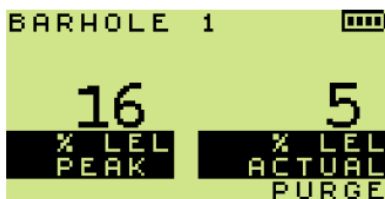

Figure 27: Barhole Readings
6. Press and hold START  button to begin sampling. This will start the timer and pump. After sampling is completed, the pump switches OFF and the peak and actual (sustained) readings are displayed as shown in Figure 27: Barhole Readings.